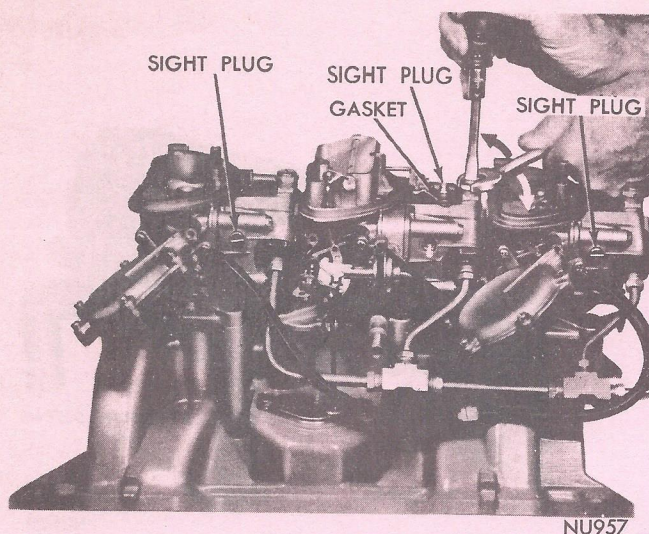

Fig. 31—Adjusting Fuel Level (On Vehicle)
(1) To check fuel level in bowl, start engine and then remove sight plug from fuel bowl (Fig. 31).
(2) Using a wrench and screwdriver, turn adjusting nut either up or down until fuel just dribbles out of sight hole (Fig. 31).
(3) Reinstall sight plug and gasket and tighten securely. Check other fuel bowls in the same manner. **CAUTION:** It is suggested that a suitable precaution be taken by placing a shop towel or a container under the bowl, to catch any fuel that might be liberated due to a high or improper previous setting.